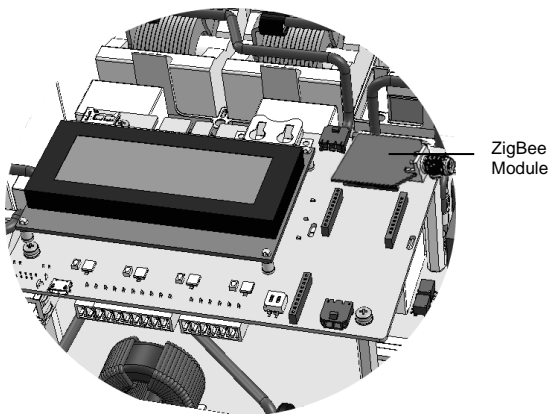

Figure 9: ZigBee on HD-Wave Communication Board
- 1 Connect the ZigBee module in its place on the communication board, as shown in Figure 9.